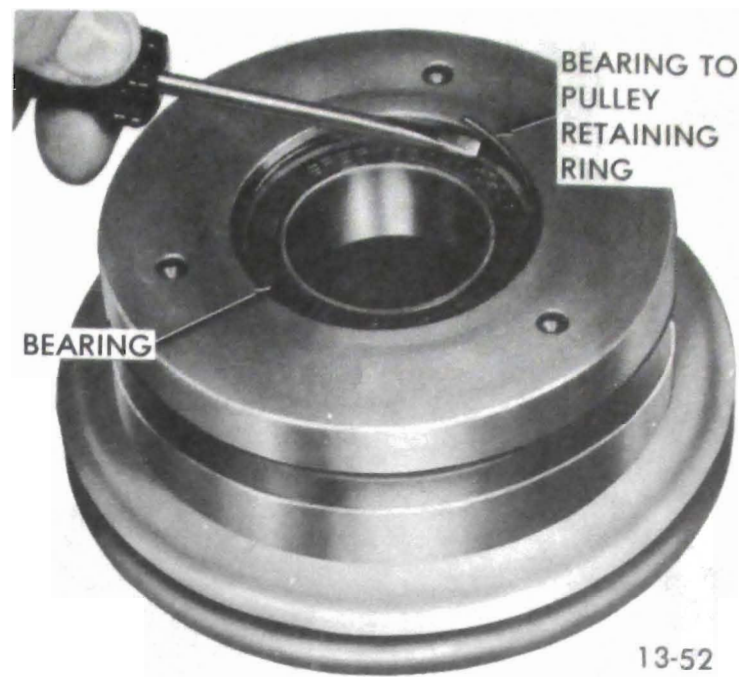

Figure 13-37 Removing Pulley Bearing Retainer
4. Remove bearing to pulley retaining ring with a small screwdriver (see Figure 13-37).